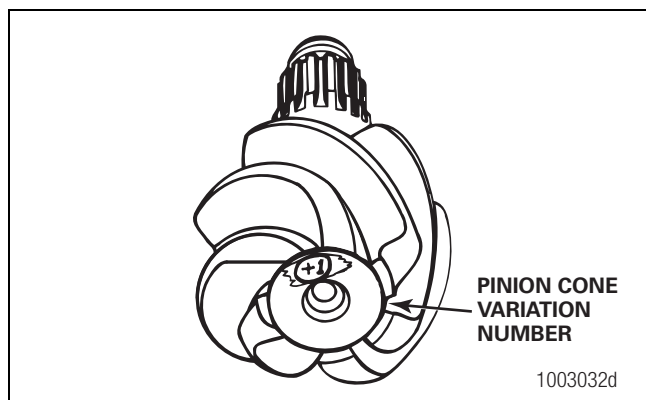

Figure 5.3
2. Find the pinion cone (PC) variation number on the drive pinion you'll replace. Record the number. Figure 5.3. The pinion cone number can be one of the following values.